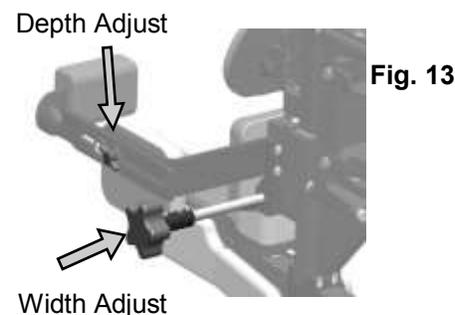

Fig. 13
- Set side-to-side lateral support pad width to allow the client to fit between the pads. Hip pad width is set by turning the knob located on the outside of the hip pad assembly (client's left side, fig. 13).
- Place the client in the unit making sure to slide the client's hips as far back as possible. Once the client is in, flip the front support pads down and slide them in toward the client until they are snug. Tighten the depth adjustment knobs securely (fig. 13).
- Tighten the hip assembly with the width adjust knob as needed to get a snug fit at the clients hips (fig 13).